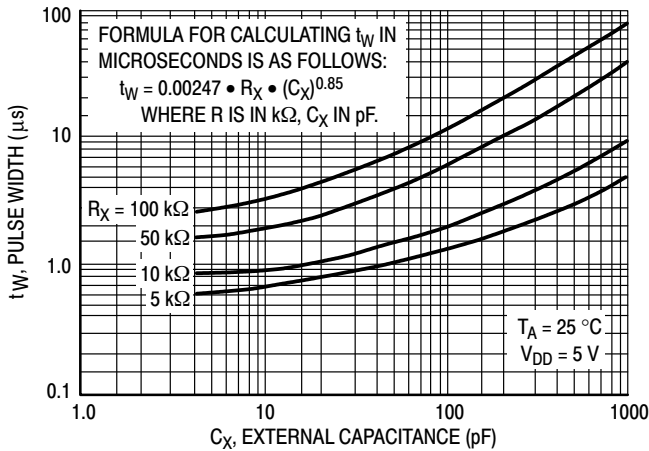

Figure 4. Typical  $C_X$  versus Pulse Width @  $V_{DD} = 5.0 V$
**MONO-IN (Pin 15)** – Used as the timing pin for the on-chip monostable multivibrator. If the Mono-In input is connected to VSS, the monostable circuit is disabled, and Decode Out is directly connected to the selected Q output. The monostable circuit is enabled if a resistor is connected between Mono-In and VDD. This resistor and the device’s internal capacitance will determine the minimum output pulse widths. With the addition of an external capacitor to VSS, the pulse width range may be extended. For reliable operation the resistor value should be limited to the range of 5 kΩ to 100 kΩ and the capacitor value should be limited to a maximum of 1000 pf. (See figures 4, 5, 6, and 11).